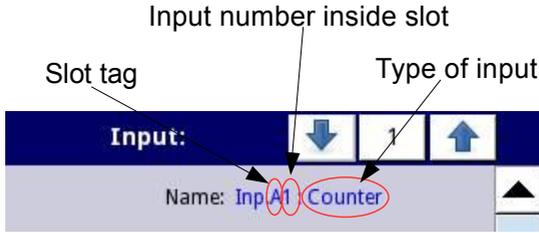

Fig. 7.91. Description of **Name** parameter in **Built-in inputs** menu
- **Name** – each built-in input already has a name given by the device and the user cannot change it, for the description of the **Name** parameter see **Fig. 7.91**.
- **Name** – each built-in input already has a name given by the device and the user cannot change it, for the description of the **Name** parameter see **Fig. 7.91**,